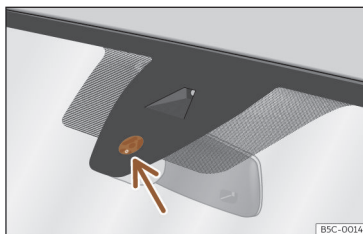

Fig. 102 Rain sensor sensitive surface
Possible causes of faults and mistaken readings *on the sensitive surface* »» Fig. 102 of the rain sensor include:
- Regularly clean the sensitive surface of the rain sensor »» Fig. 102 (arrow) and check for possible damage to the wiper blades.